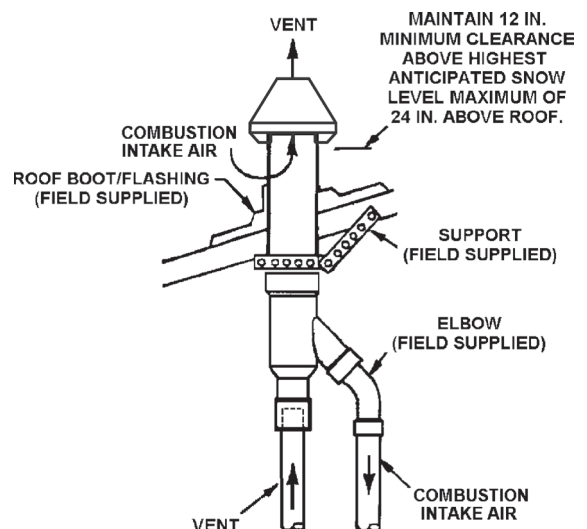

Figure 27
5. Secure assembly to roof structure as shown in Figure 27 using field supplied metal strapping or equivalent support material.
NOTE: Ensure termination height is above the roof surface or anticipated snow level as shown in Figure 27.
7. Cement water heater combustion air intake and vent pipes to concentric vent termination assembly. See Figure 27 for proper pipe attachment.